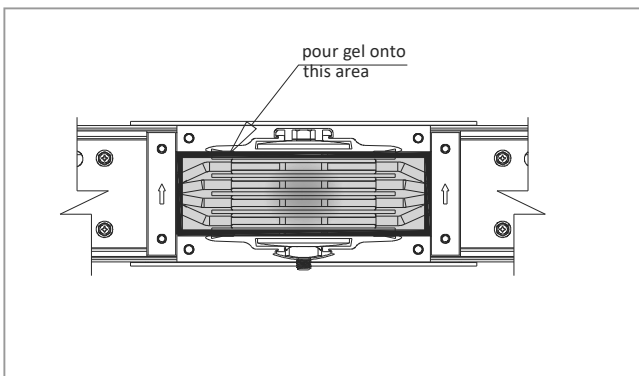

Figure 9.4
4. Pour the mixed compound onto the area until full as shown in Figure 9.4. Complete cure time is in 8-12 hours @ 25°C or 1 hour @ 80°C.